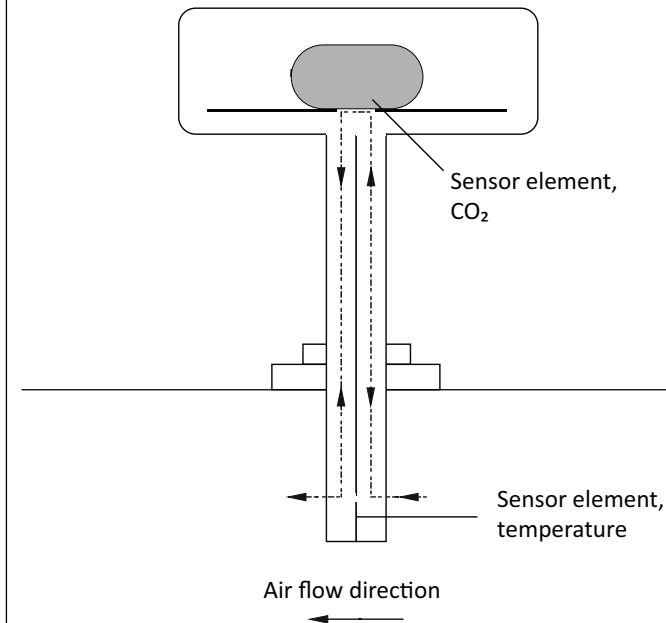

Figure 1 The airflow direction is either from right to left (as in the example) or from left to right
The air in the ventilation duct is transported to the CO₂ sensor element through one half of the probe and then back to the duct through the other half. The temperature sensor is located inside the probe. (see Figure 1)
2. Place the transmitter in the air flow direction of the ventilation duct according to the marks on the cover. The air flow direction is either from right to left (as in Figure 1) or from left to right. The hole in the duct should measure 13 mm in diameter.